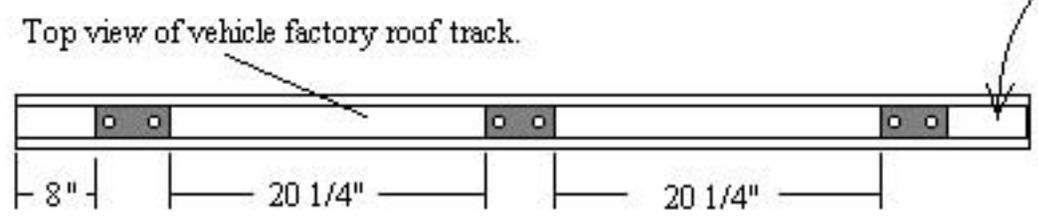

FIG.2
4. Plastic Bag labeled #3 remove contents and insert black "T" nuts #6 into roof track slot 6a to both roof tracks #15 and space apart as shown in Fig. 2 page 4.